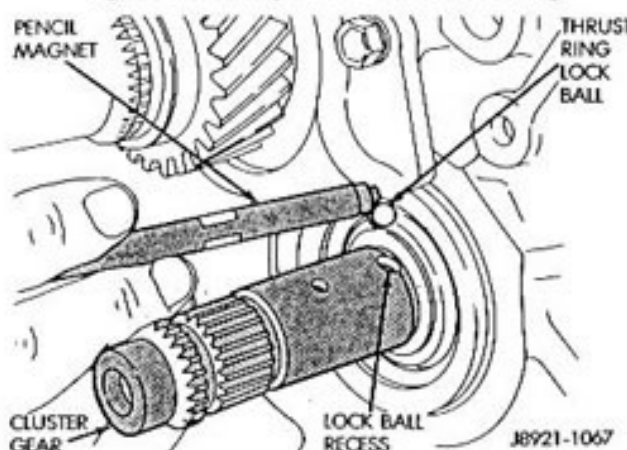

Fig. 37 Removing Thrust Ring Lock Ball
(18) Remove the thrust ring lock ball with a pencil magnet (Fig. 37).